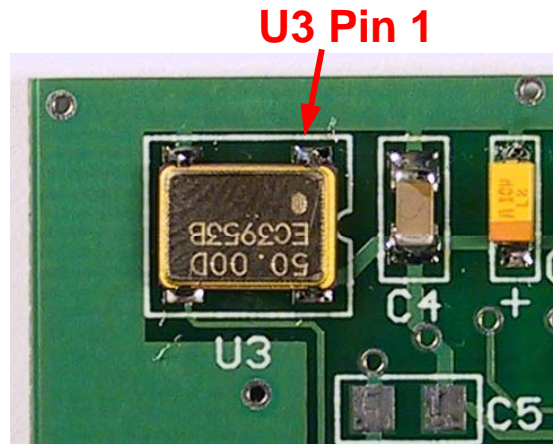

Figure 13. U3 Positioning
- ❑ Remove U3, the 50 MHz oscillator, from Bag 2. This part has gold-plated concave recesses for pins and gold pads on the bottom. Refer to **Figure 13** for positioning.